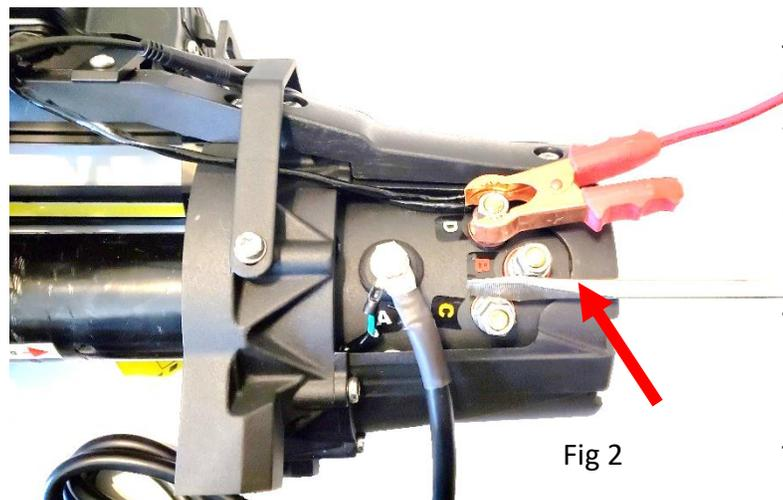

Fig 2
Step 4: Using a jumper cable from the positive battery terminal to terminal D (black) on the motor. Take care that jumper cable does not contact motor housing. Then using a screwdriver. Jumper the B (red) and the C (yellow) terminal. Motor should power the opposite direction. Fig 2.